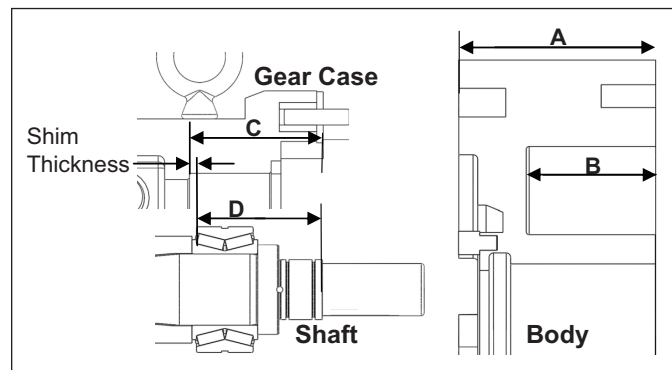

Figure 38. Calculating Shims
3. Shims located on the shaft behind the front bearing control the backface clearance of the pump; the space between the body and the rotor. If neither the shafts or bearings are being replaced, use the shims (if properly marked) removed at disassembly and reuse making sure they are installed in the correct bores. If replacing shafts or bearings, a process of calculating the required shims is necessary. Use *Figure 38* and the following equation to calculate. To find the correct backface clearance see *Table 10, page 37*.